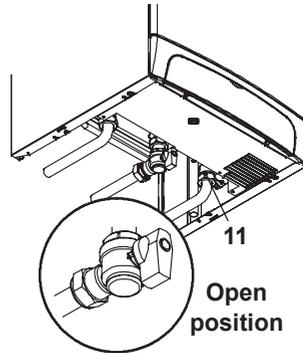

Fig. 7.1
- Open the gas cock 11 (Fig. 7.1) on the appliance and check the gas connector on